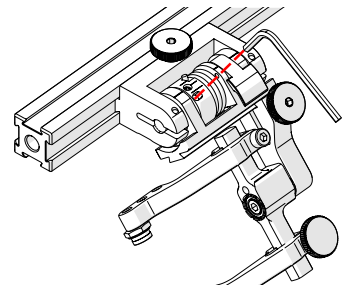

Fig. 159 - Unlatched position
3. Insert the short arm of a 3 mm hex wrench into the 3 mm slot (Fig. 159).